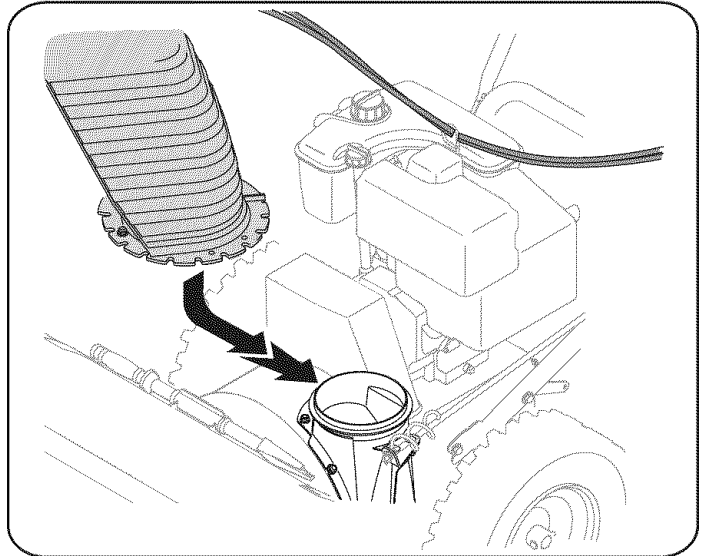

Figure 4
6. Place chute assembly onto chute base as shown in Figure 4, making sure that the notches engage with the spiral end of chute directional control.
- If not already done, slip the cables that run from the handle panel to the discharge chute into the cable guide located on top of the engine. See Figure 4.